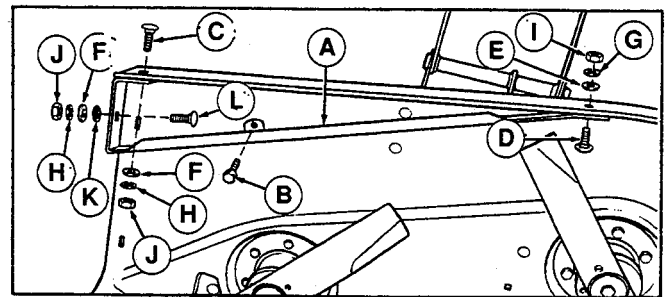

Figure 4.
7. Install the discharge baffle (A, figure 4) as shown. Insert bolt (L) and install push nut (K) fully onto threads to hold bolt (L) in place. (The lockwashers (F), washer (H) and nut (J) will be used to install adapter.)